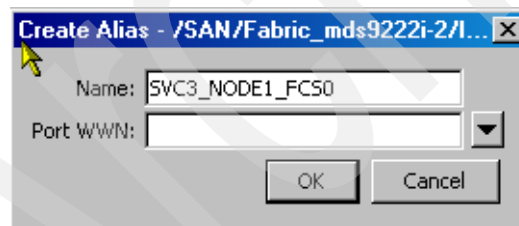

Figure 6-50 Defining an empty alias
5. Name the new alias SVC3_NODE1_FCS0 and click **OK** to create the empty alias, as shown in Figure 6-50.